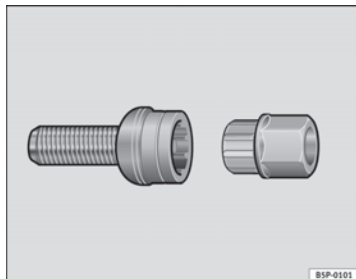

Fig. 183 Anti-theft wheel bolt
- Insert the adapter onto the wheel bolt and push it on as far as it will go ⇒ fig. 183.